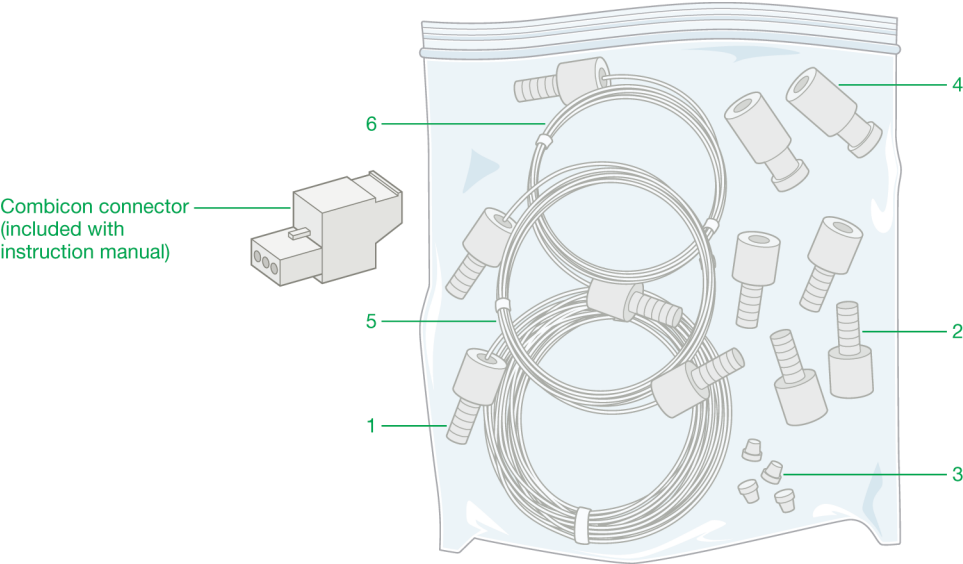

Fig. 2. Fittings kit.
- Fittings kit (Figure 2)
- Tube rack #F1 (2) for 12–13 mm tubes